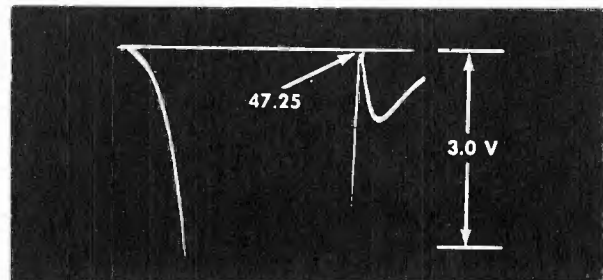

Fig. 3 Expanded View of the 47.25 MHz Trap Frequency.
5. Connect the sweep generator to Test Point "A" on VHF tuner. Short test points "E" and "F" to chassis ground. This will provide a "blow up" of the 47.25 MHz trap response as shown in Fig. 3. Adjust the 47.25 MHz trap (top slug of T1) for minimum marker amplitude.